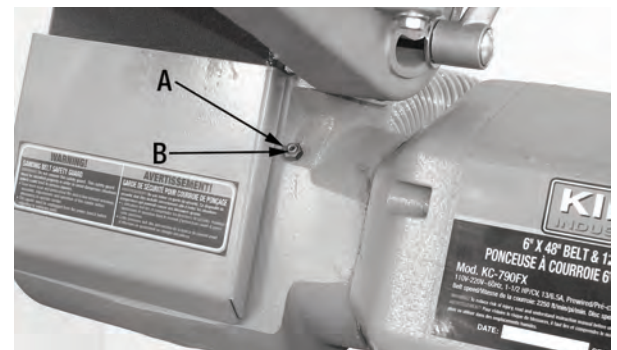

Figure 18
1. Loosen hex. nut (A) Fig.18, then loosen set screw (B).
3. Retighten set screw (B) and then retighten hex. nut (A).